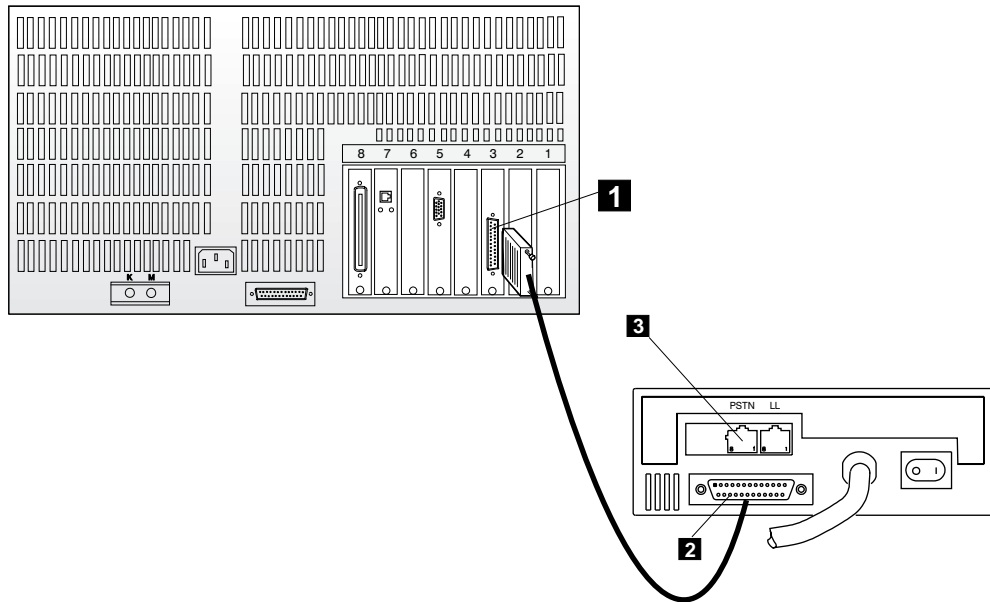

Figure 1-102. Connecting the Service Processor (3172) to the External RSF Modem
- **3172**, refer to Figure 1-102.